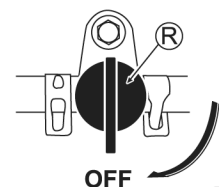

Fig. 14
3. Set Fuel cock (R) to "OFF". (See Fig. 14)